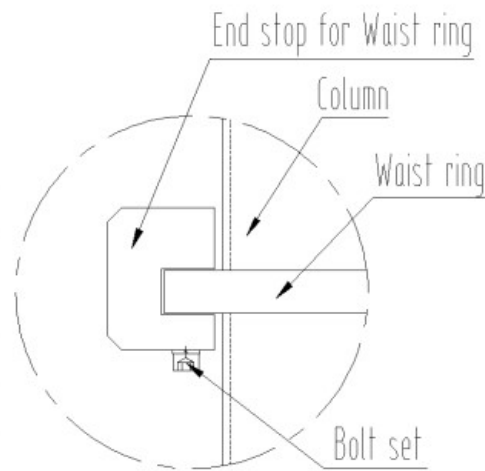

Figure 7-1-2
- c. Rotary stop installation (Figure 7-1-2).
- b. Rotary stop installation(Figure 7-1-2).